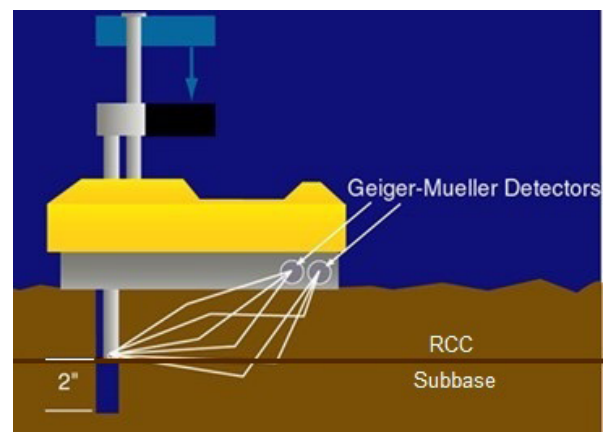

Fig. 2—Side view of proper guide hole and source rod positioning. (Figure courtesy of Troxler Electronic Laboratories.)
Step 4: Use the guide plate to drive the pin, creating a pilot hole that terminates 2 in. (50 mm) below the bottom of the layer being tested, as shown in Fig. 2 and 4. As an example, for an 8 in. (200 mm) RCC lift, the pilot hole should be driven 10 in. (250 mm) deep. Remove the pin without damaging the hole by slightly twisting the pin. Do not hit the side of the pin with a hammer when removing the pin. Mark the corners of the plate to determine the footprint for placement of the nuclear gauge.
Step 5: Align the gauge inside the footprint of the plate. Insert the source probe to a depth equal to the thickness of the RCC layer being tested. For an 8 in. (200 mm) RCC layer, the probe should extend the full 8 in. (200 mm). Slide the gauge so that the side of the probe facing the center of the gauge is in intimate contact with the side of the hole, as shown in Fig. 2.